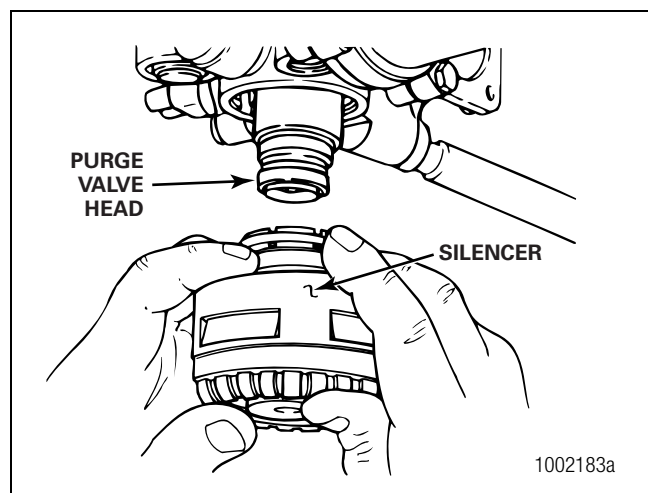

Figure 3.23
3. Install replacement silencer firmly onto purge valve head until fully seated. Secure with retainer ring. Figure 3.23.